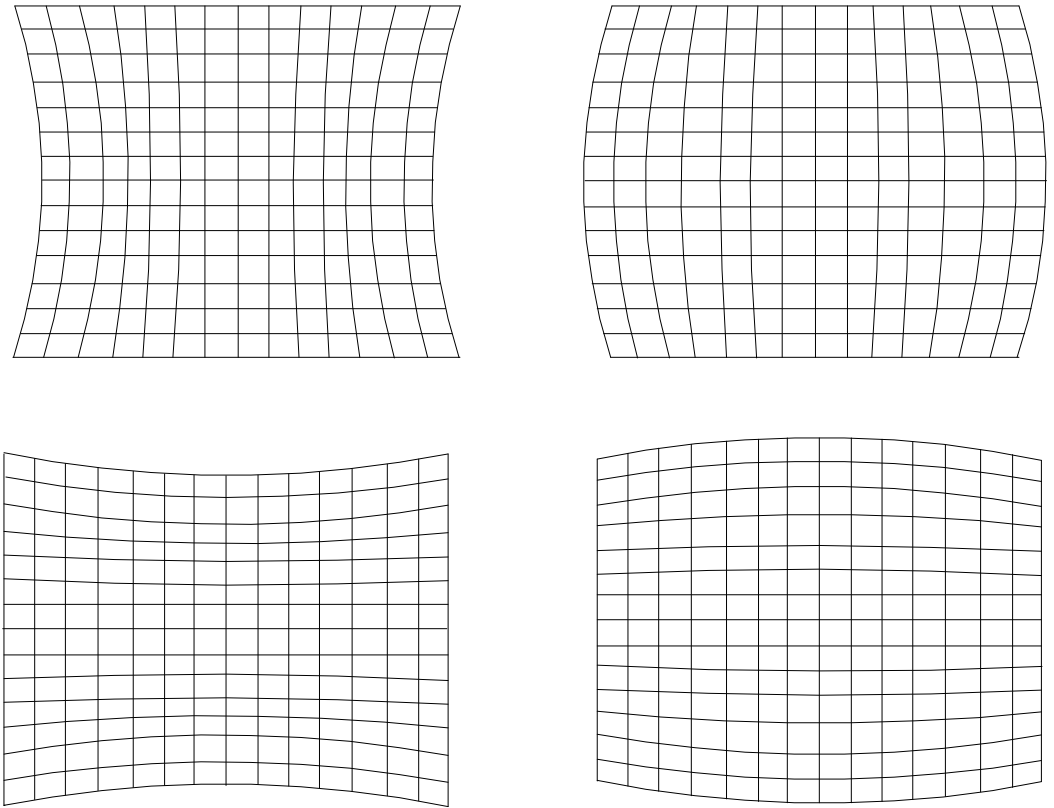

Figure 5-12. Four views of Pincushion Distortion. Use left/right keys for distortion at top and up/down keys for distortion at bottom.
The Pincushion Balance adjustment balances the pincushion error (see Figure 5-6) equally on both sides or top and bottom. Although the centerlines are straight, too much pincushion distortion on any side prevents the pincushion adjustment from correcting the error. Balance the error equally so the result looks like one of the pincushion illustrations in Figure 5-12.
2. Use the left/right arrow keys to correct pincushion distortion as shown on the top two patterns in Figure 5-12. Use the up/down arrow keys to correct pincushion distortion as shown on the bottom two patterns in Figure 5-12.